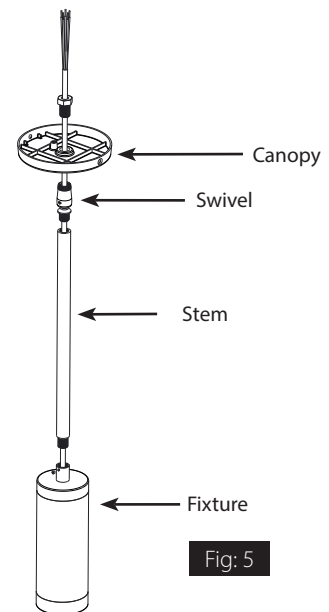

Fig: 5
2. Insert **Cord** through **Stem** section as shown in **Fig. 5**. Screw **Stem** section to **Fixture**. Add up to 3 more **Stem** sections as required. Each Stem Section is 12" long.